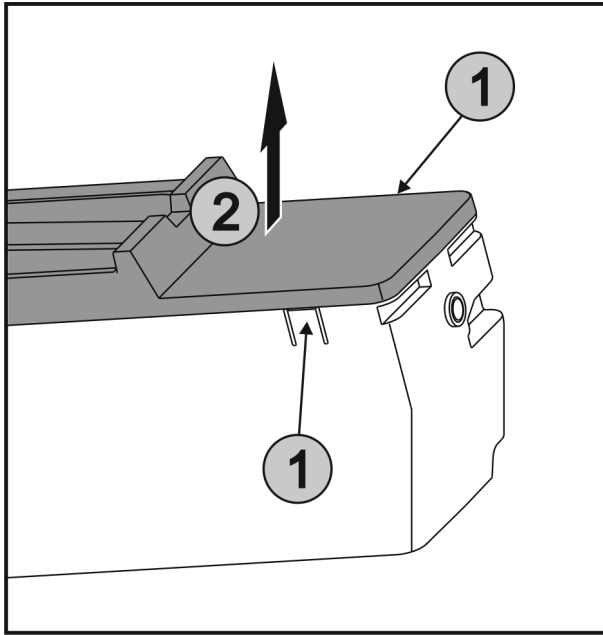

Fig. 71
- ▶ Press the lugs Fig. 71 (1) on both sides of the EasyTwist-Ice simultaneously and take off the lid Fig. 71 (2) to the top.